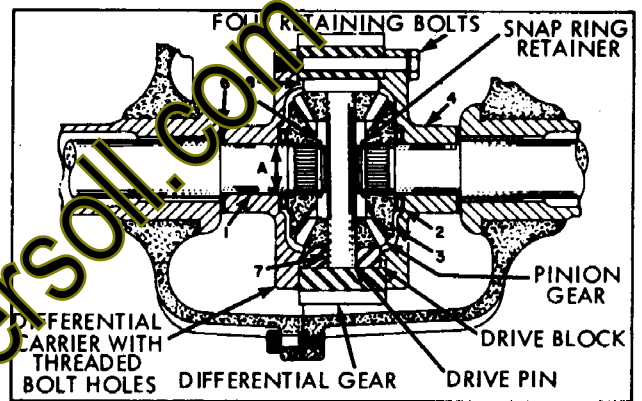

Figure 3-8
3. Refer to Figure 3-8 for the proper arrangement of parts.